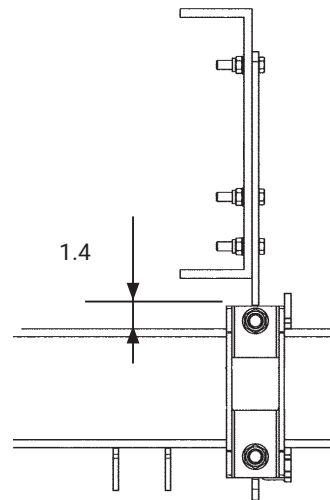

Figure 23. The frame mount requires at least 1.4" of space between the vehicle chassis and the support frame
8. Install the U-profile with associated washers and nuts, but do not tighten them. Screw the nuts on alternately until the U-profile is flat against the body, see Figure 23.